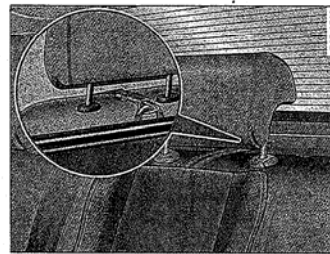

Fig. 186 Tether strap: proper routing and mounting
- To install the tether to the anchor on the seat back, remove the luggage cover assembly, guide the tether strap under the head restraint ⇒ page 253, fig. 186, over the rolled up cargo net and attach to the tether anchor.
- Guide the upper tether strap **under** the rear head restraint ⇒ fig. 186 (raise the head restraint if necessary).
- Tilt the recess flap -detail view- ⇒ fig. 186 up to expose the anchor bracket.